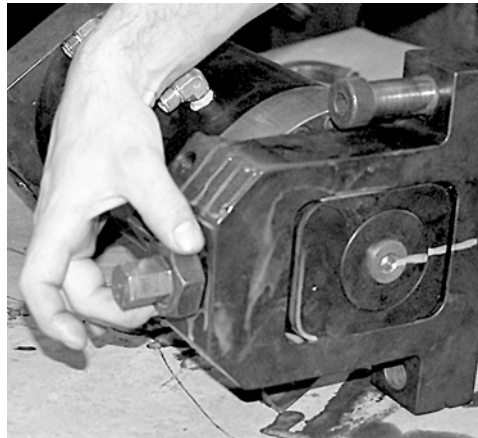

Figure 5-10. Removal of Jam Nut
8. Remove jam nut (see Figure 5-10).